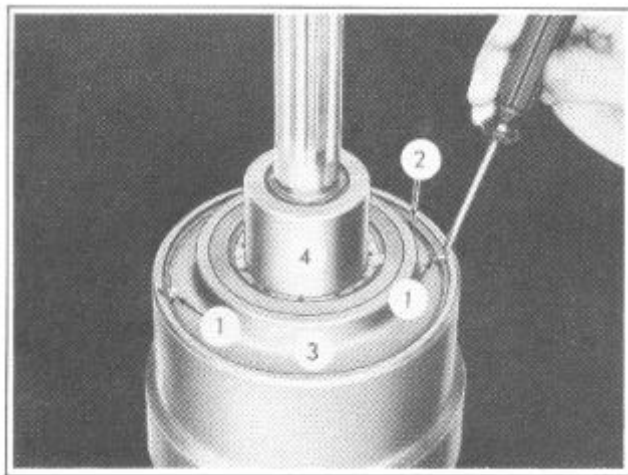

FIGURE 105
15. With the ends of the low brake drum plate snap ring (2), Figure 105, over one of the slots in the brake drum, use a small screwdriver and lift one end of the snap ring and remove the ring from its groove.